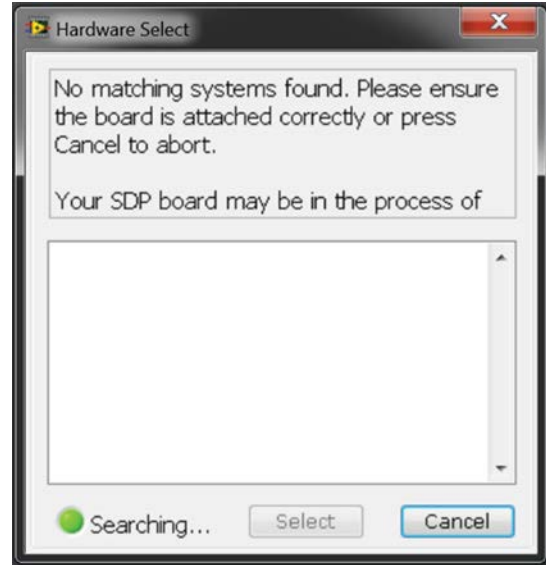

Figure 2. Connectivity Error Window
2. If the **SDP-B** or **SDP-S** board is not connected to the USB port when the software is launched, a connectivity error displays (see Figure 2). Connect the EVAL-AD5292DBZ board to the USB port of the PC, wait a few seconds, click **Rescan**, and follow the instructions.